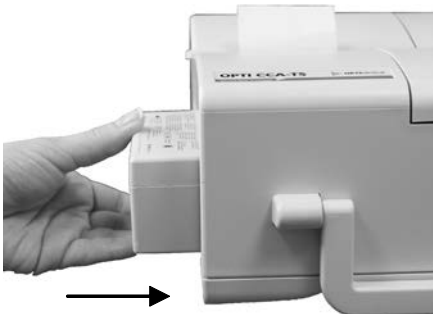

Fig. 2-2 Insert Battery Pack
- Push the battery pack into the opening on the left hand side of the OPTI CCA-TS (Fig. 2-2).